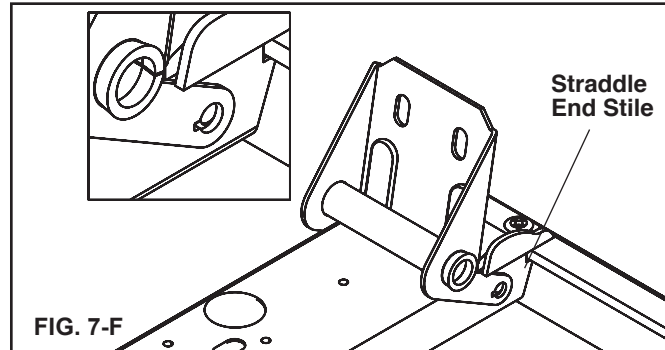

FIG. 7-F
**Step 7-8:** Select the hinge with the 00 stamped on it along with one 2-1/4" keyed center hinge pin. Straddle the center stile with the hinge while aligning the keyways on either leg of the stile. (FIG. 7-H)